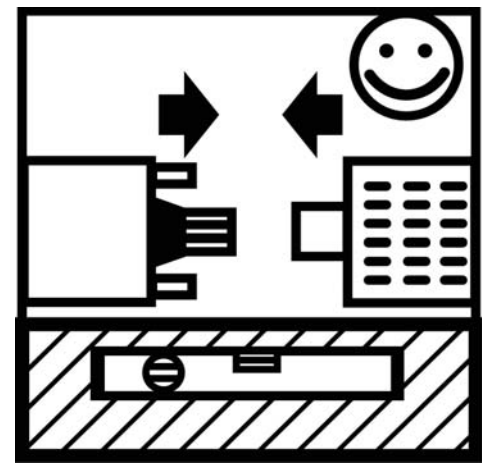

Fig.: 9
- 1 Place motor and pump horizontally and level (fig. 9).